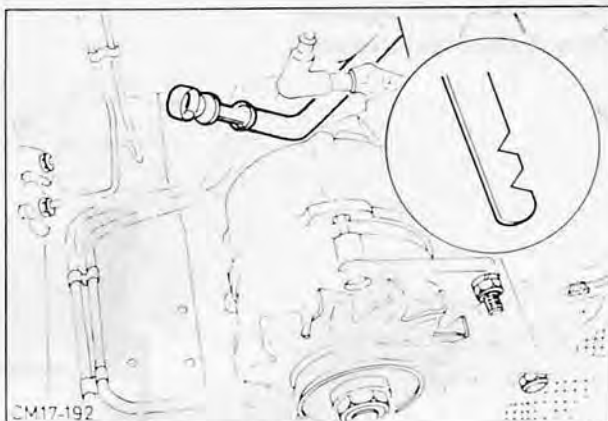

Fig. 10. Automatic gearbox fluid level check
4. With the engine idling withdraw the dipstick, Fig. 10, wipe it with a clean rag, replace and withdraw again. The fluid level should be at 'Max'.